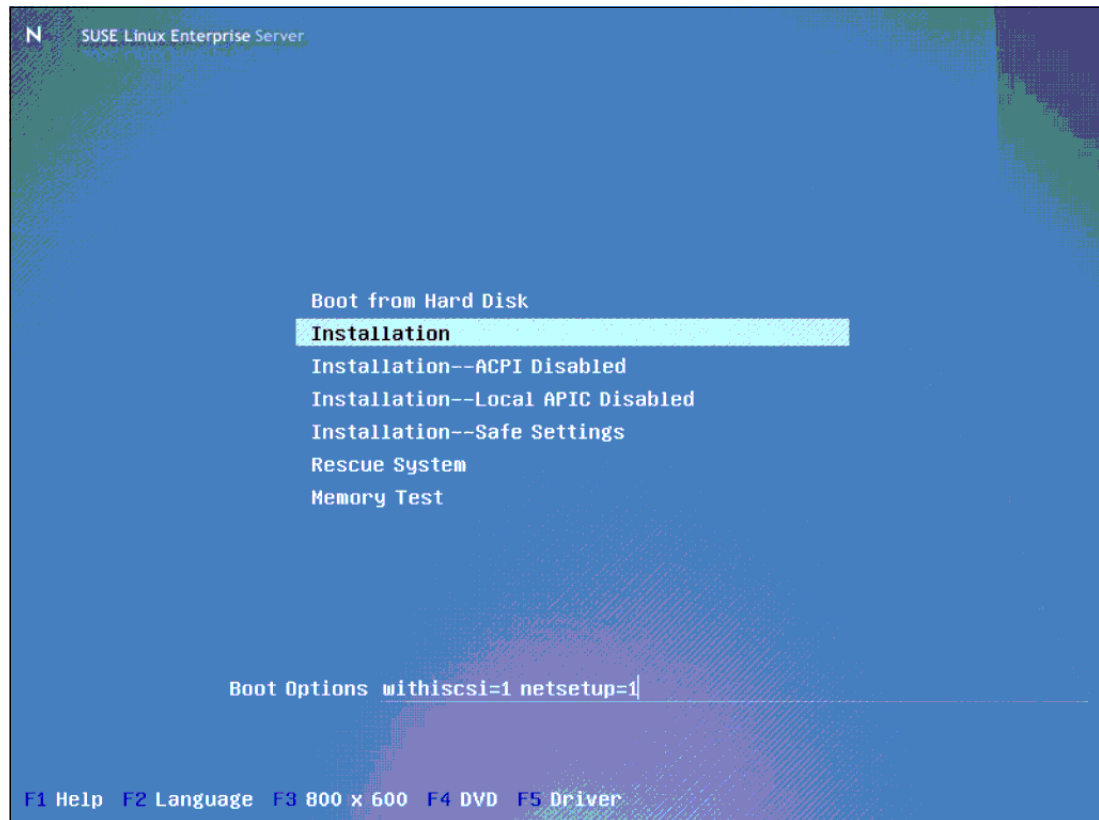

Figure 6-51 SUSE Linux Enterprise Server - Welcome panel
1. For iSCSI SAN Boot, Provide the parameters "**withiscsi=1 netsetup=1**" to the kernel boot line, as shown in Figure 6-51.